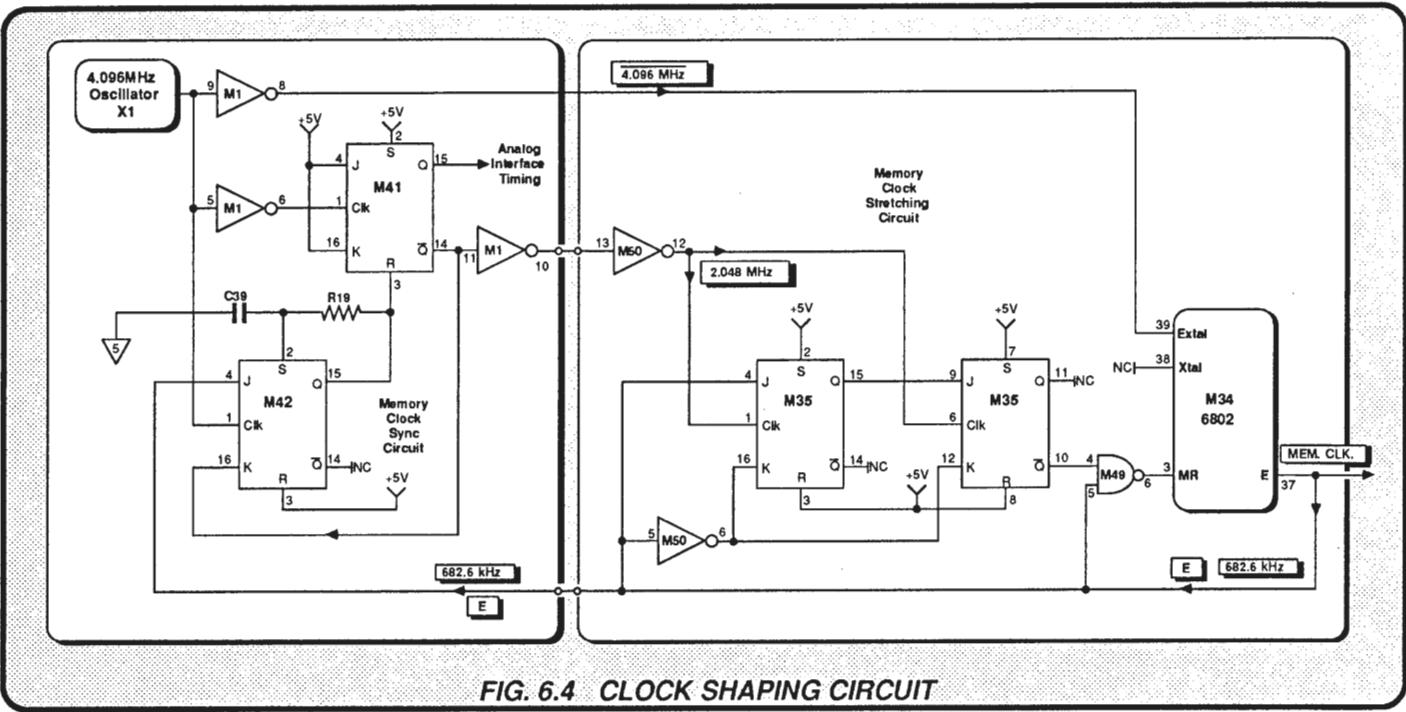

FIG. 6.4 CLOCK SHAPING CIRCUIT
As the circuit locations in Fig 6.4 are clearly marked, and as there are no duplicate designators in the circuits, this description does not refer to a component's location except where necessary.
If M34-3 (MR-Memory Ready) were permanently held at +5V, the E signal would be 1.024MHz. But in the 4700, a 'stretching' circuit (M35/M49) doubles the Logic High (+5V) time of E by switching MR to Logic Low (0V) for part of the cycle. This is shown on Fig.6.4.
(Fig. 6.4)
6.1.7.2 Shaping Action (Figs. 6.4 and 6.5)